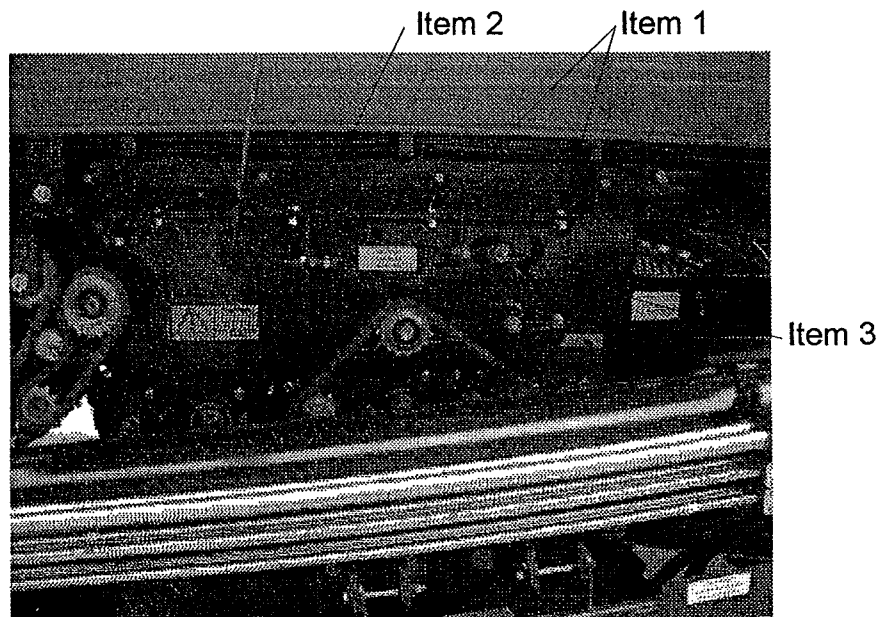

Fig 7.12
To adjust this gap, slacken bolts (Fig 7.12 item 1) and adjust screw (Fig 7.12 item 2) to give the desired gap between star shafts. Ensure the gap is adjusted evenly on both sides of the machine.
The clod and transfer rollers are mounted on a separate arm and the gap between the clod roller and the last star shaft can be adjusted to make the clod roller more or less aggressive. To adjust the gap, slacken lock nuts and adjust screw (Fig 7.12 item 3). After the adjustment has been completed, tighten the lock nut. Ensure the clod roller is adjusted evenly on both sides of the machine.